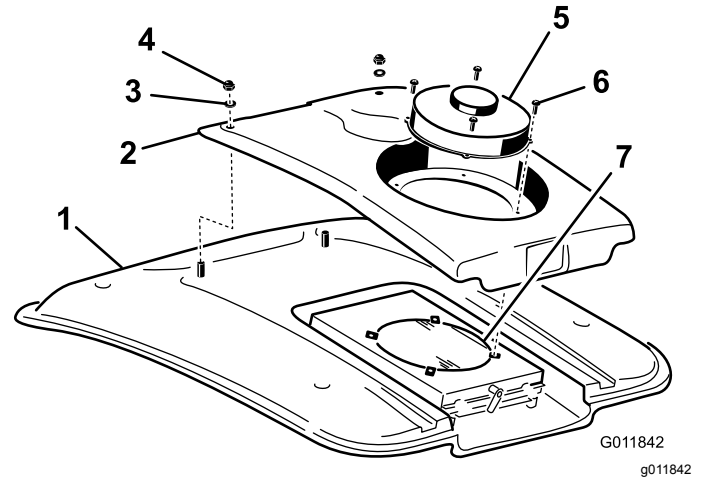

Figure 114
2. Remove the (4) screws securing the fan and the condenser cover to the fan mount (Figure 114).
4. Remove the two nuts and washers securing the front of the condenser cover to the cab roof (Figure 114).
8. Clean the air conditioning condenser thoroughly with compressed air (Figure 114).